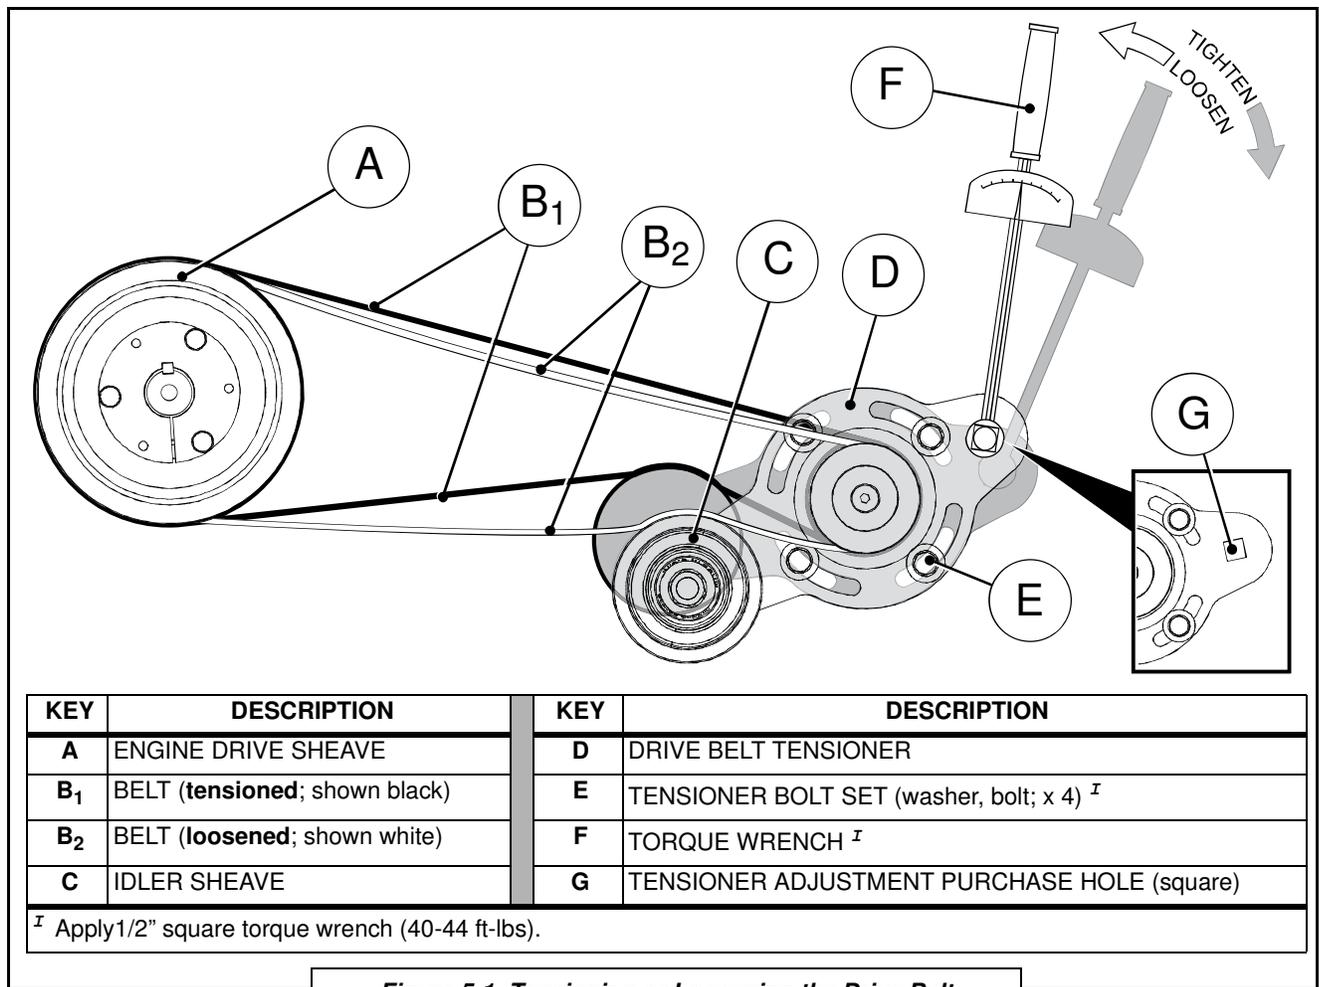

Figure 5-1: Tensioning or Loosening the Drive Belt
Refer to Figure 5-1. Drive belt tension should be maintained to avoid premature belt wear, poor performance due to belt slippage, or damage to engine and/or compressor. The Viper Gas has an idler pulley mounted to a tensioning device to set the proper belt tension. To adjust the belt tension, loosen the four (4) tensioner mounting bolts and with a 1/2" square drive torque wrench, apply 40-44 ft-lbs. of torque to the tensioner while re-tightening the tensioner bolts.